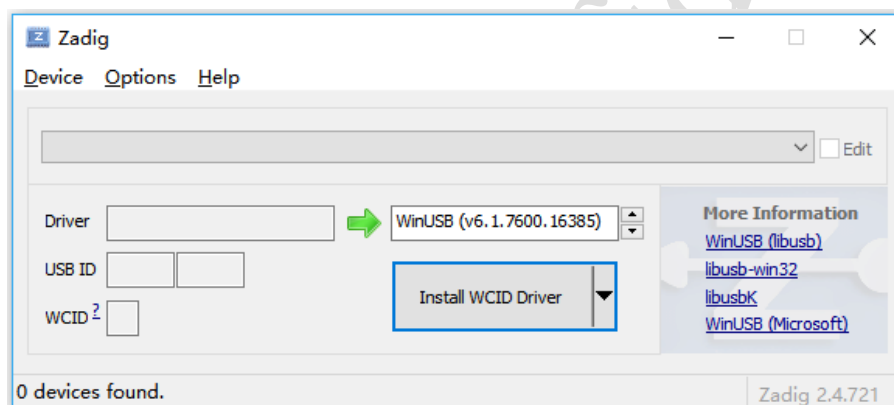

Fig. 2-1
- (1) Connect the CeleX-5 Sensor to the PC via the USB cable, double-click “**zadig-2.4.exe**” to pop up the interface shown in Fig. 2-1.